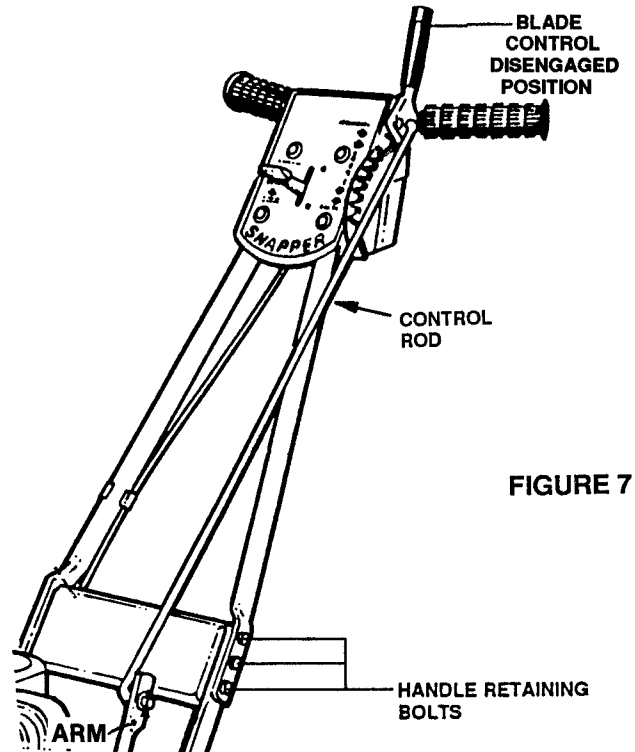

FIGURE 7
2. Disengage blade by placing blade control in its disengaged position. See Figure 7.
5. While pulling the ROPE STARTER, watch the belt for any rotational movement. If any movement of belt is observed, make the following adjustments to the BLADE CONTROL. Refer to Figure 7.